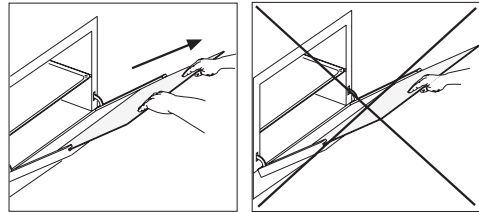

Fig. 9A
with the door in a semi-open position, use both hands to remove the glass as shown in figures 9A.
- (Only where present, remove the inside door glass of the oven, see fig. 9A).